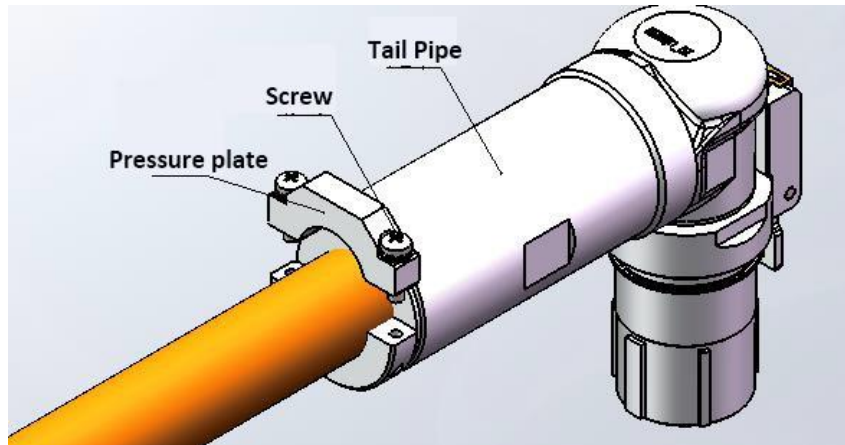

Figure 15
3.2.5 The tail pipe is screwed to the thread at the tail of the elbow and screwed in place, and the nut locking torque is 5-8N.m, as shown in Fig.15.